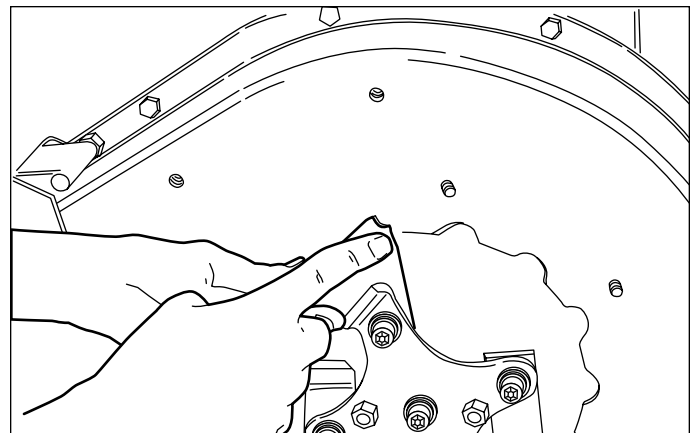
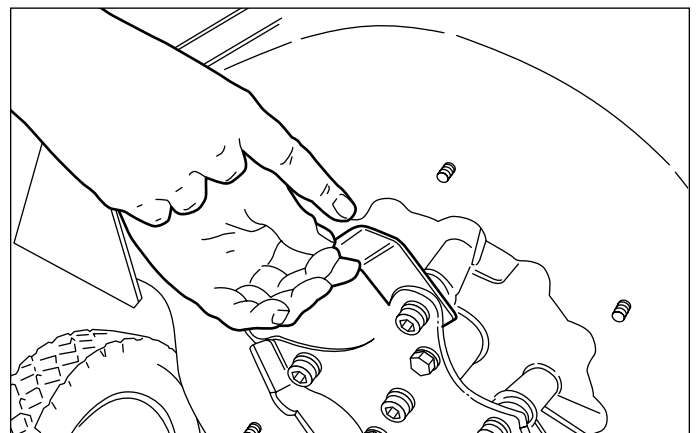

Figure 6. Triangular Hammer Wear Area
Figure 7. J-Hammer Wear Area
3. Inspect the cutting edges of the triangular hammers (Figure 6) and J-hammers (Figure 7).